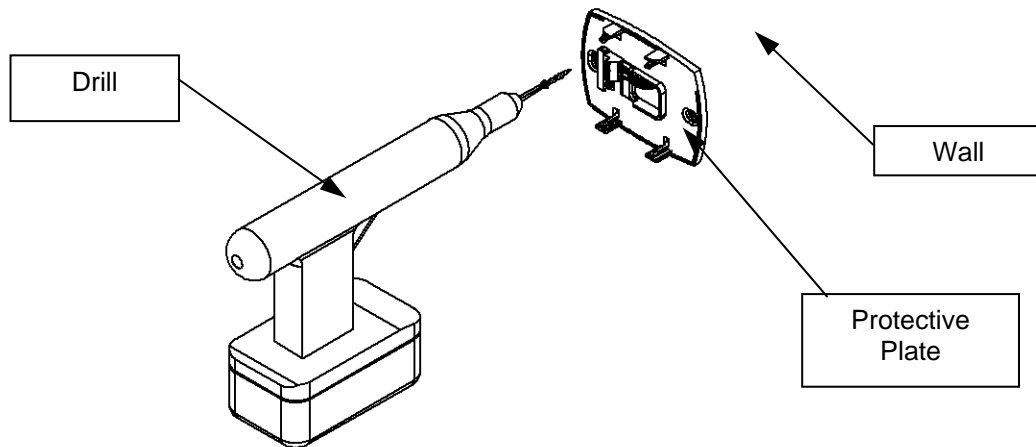

Figure 10
Step 4: Mount the Setback Control Protective Plate in a desired location. Be sure that the Setback Control will not be direct sunlight, as the display may be difficult to read. This is shown in Figure 10.